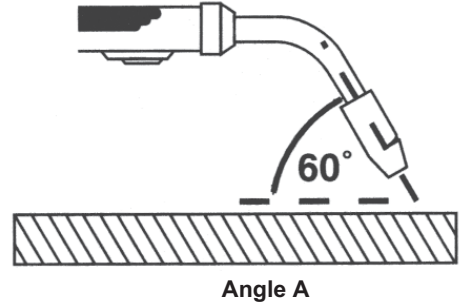

Figure 9. Gun Position, Angle A
1. Angle A (Figure 9) can be varied, but in most cases the optimum angle will be 60 degrees, the point at which the gun handle is parallel to the work piece. If angle A is increased, penetration will increase. If angle A is decreased, penetration will decrease also.